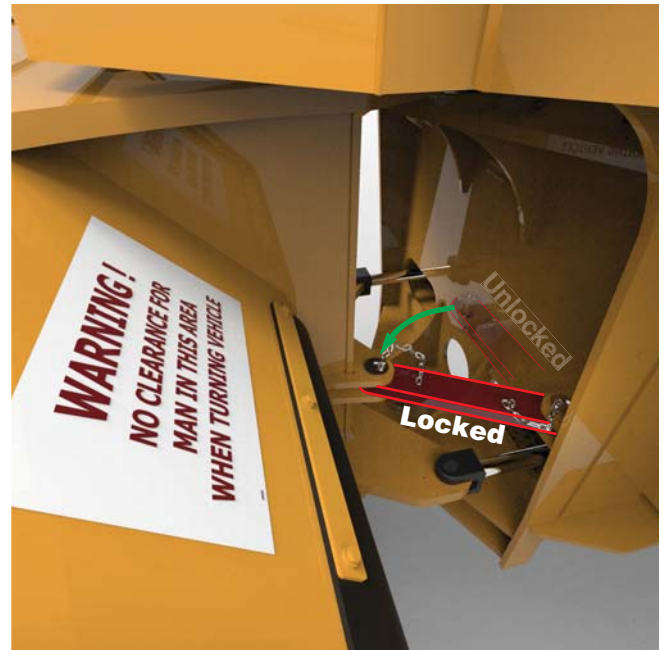

Figure 1 Articulation Lock
4. Move the articulation lock from the stowed to the locked position. See Figure 1.